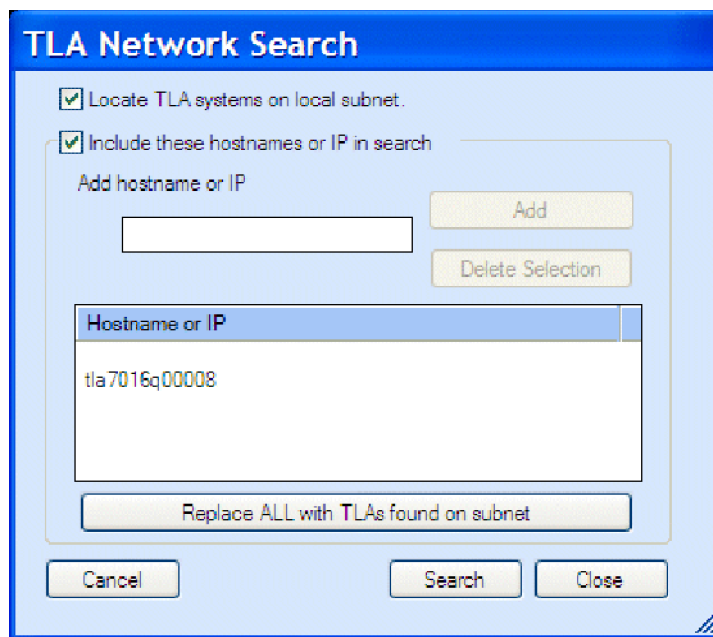

Figure 14: TLA Network Search dialog box
- a. Click  (Search icon) to open the TLA Network Search dialog box. (See Figure 14.)